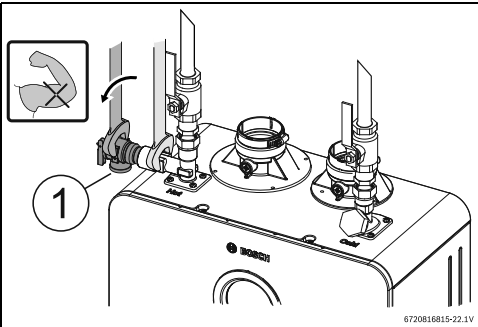

Fig. 25 Plumbing Connections (with shutoff valves) and Pressure Relief Valve
- ▶ Use the integrated port to install the PRV, see Fig. 25 [1].
- ▶ Tighten the PRV with the support of a wrench, see Fig. 25.
- Full port shutoff valves should be installed on both the cold water supply and hot water outlet lines to facilitate servicing the heater (see fig. 25).